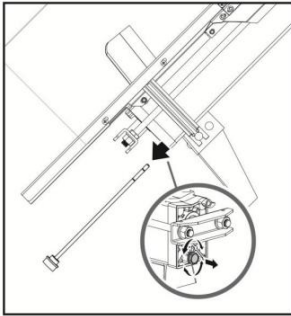

Fig. 10
2. Unscrew the oil drain bolt with the dipstick to remove it (Fig. 10).